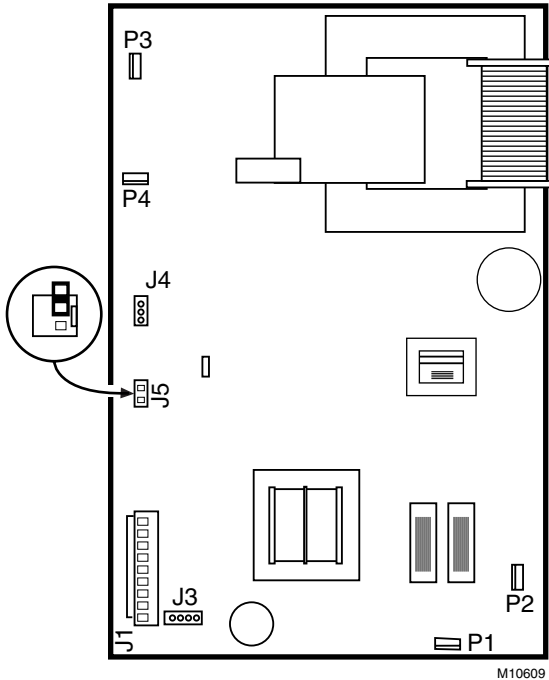

Fig. 25. Move J5 shorting bar to reduce ozone production about 20 to 25 percent.
- d. Locate J5 shorting bar on the power supply. See Fig. 25. Remove the shorting bar and reinstall on only one pin.